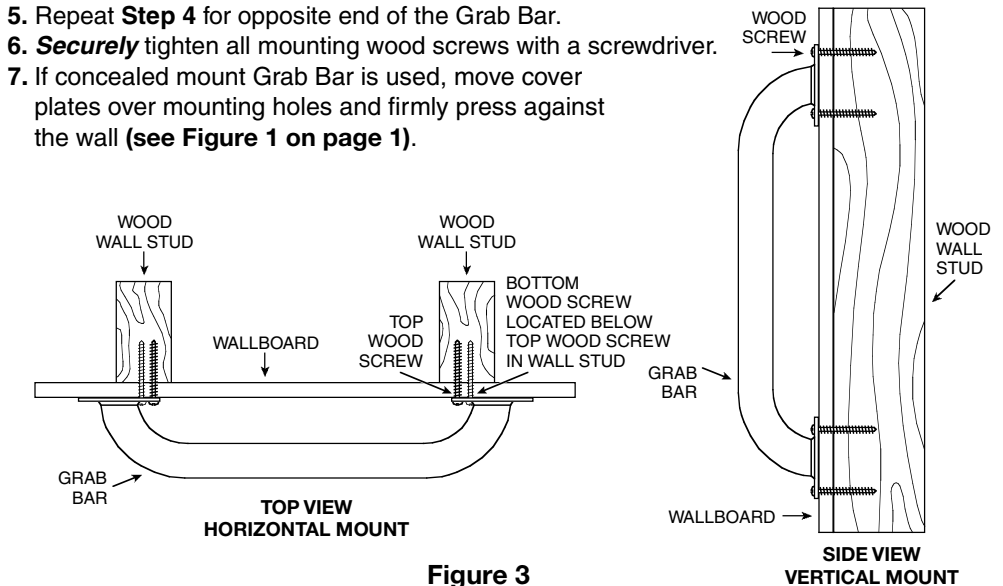

Figure 3
4. Insert the wood screws provided into one end of the Grab Bar. Screw into wall and wall stud (**HAND TIGHTEN ONLY**) (see Figure 3).